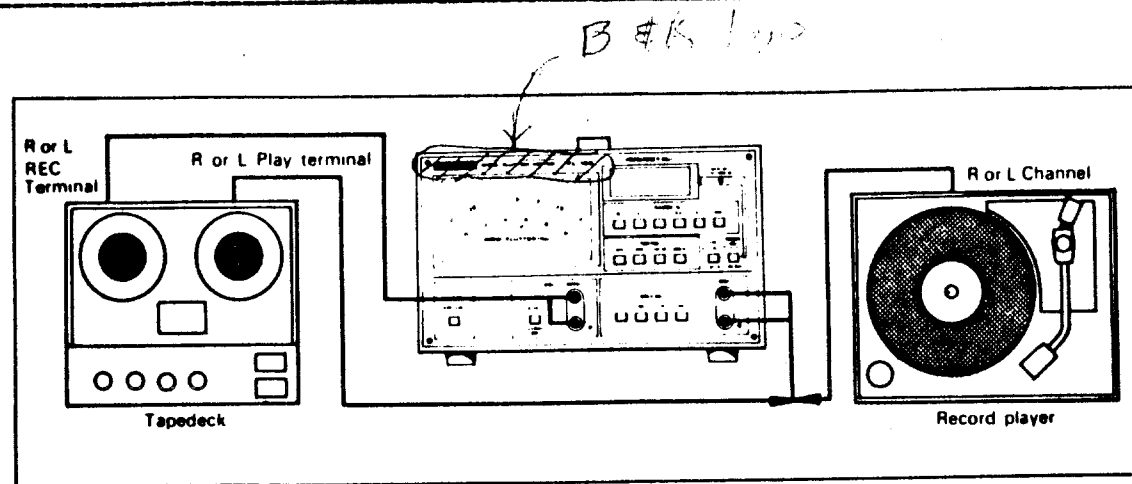

Fig. 4. Input and Output Connections to Wow & Flutter Meter.
- a. Connect cable from **OSC OUTPUT** terminals to input of recorder (see Fig. 4).
3. Connect output of equipment to be tested, such as tape recorder or turntable, to **INPUT** terminals (see Fig. 4).